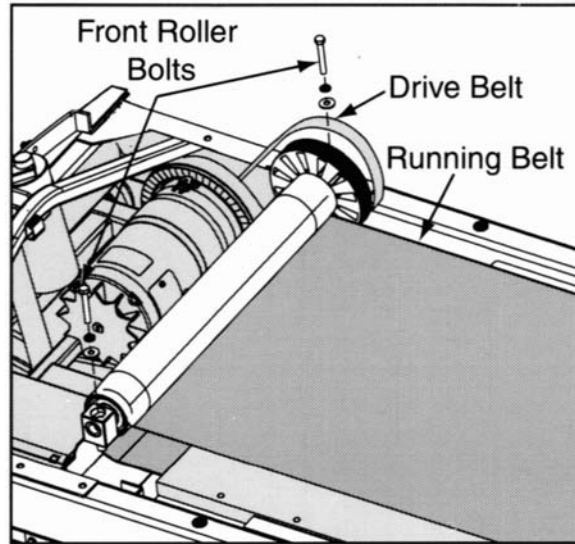

Figure 6
- A. Loosen and remove the two bolts and four washers that fasten the front roller to the front end assembly. See Figure 6.
- B. Loosely attach the two bolts and four washers that fasten the front roller to the front end assembly. See Figure 6.